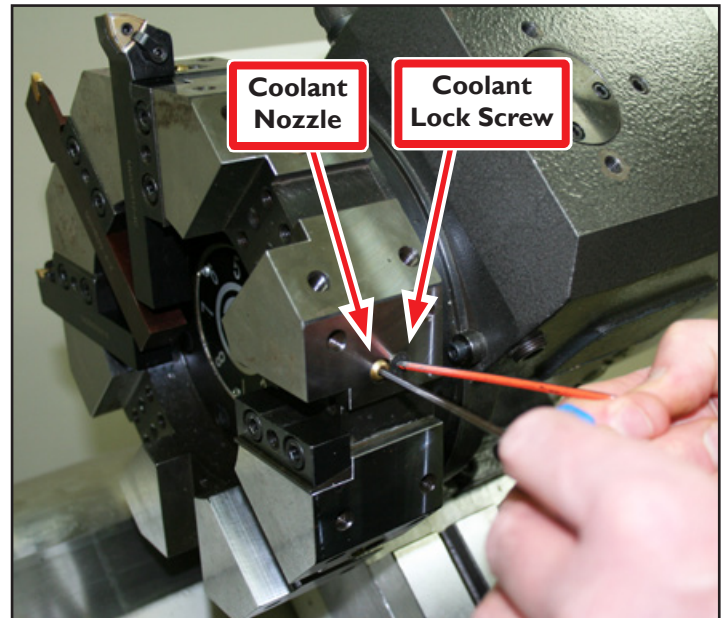

Figure 30
2. Using a hex wrench, loosen Coolant Lock Screw; insert a second wrench into Coolant Nozzle to aim coolant flow as needed (see **Figure 30**).
17. Using a hex wrench, loosen Coolant Lock Screw; insert a second hex wrench into nozzle to adjust flow direction as needed (see **Figure 30**). Retighten Coolant Lock Screw snugly.